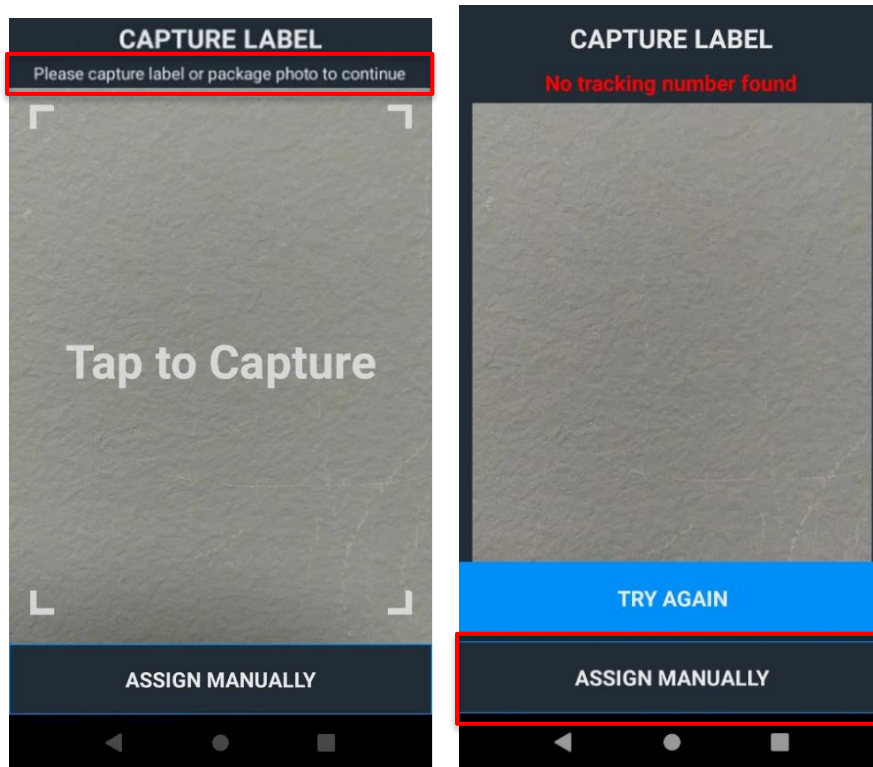

Figure 21: Capture photo of package
If a package does not have a label, does not have a valid tracking number, or a valid tracking number can't be captured (label is damaged) and if your site requires that a photo of the package label must be taken before continuing with the delivery process, see the steps below. To tell if this feature is turned on at your site, the text "Please capture label of package photo to continue" will display under Capture Package Label, see Figure 21.
4. **Tap to Capture** the package label. See Figure 21.
5. Tap **Assign Manually**. See Figure 21.